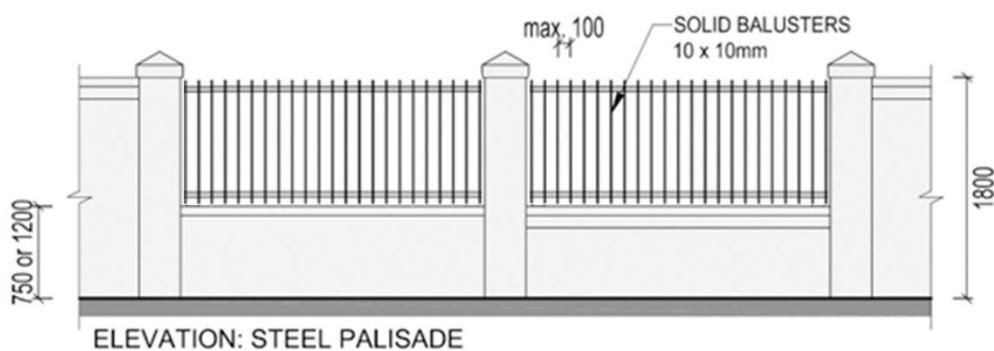

Figure 14
- (i) Either wrought iron, steel or timber gates with varnish or painted finish may be used. Linear patterns of vertical rather than horizontal nature may be used. The gate height to be similar to the adjacent walls (Figure 14)